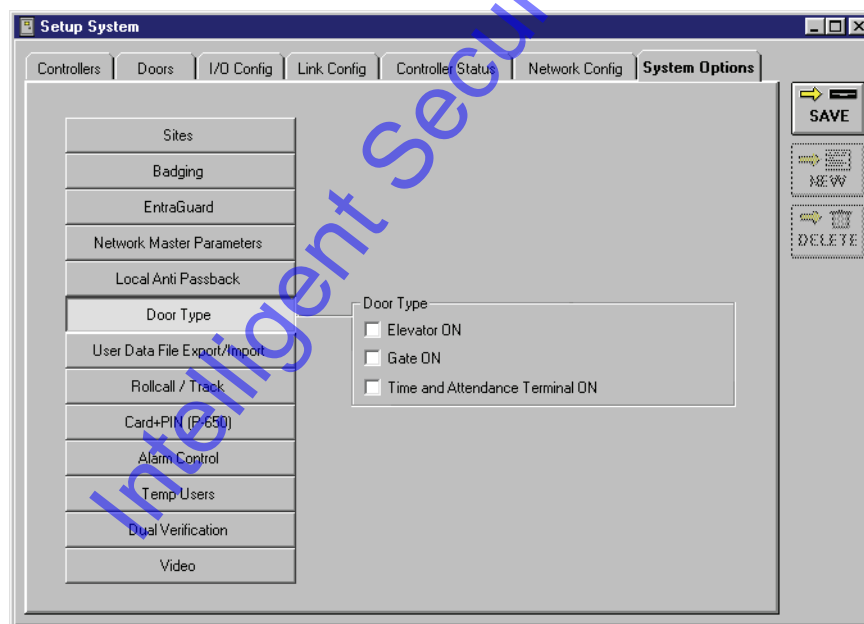

Figure 2-15: Door Type Field
1. From the System Options tab, click on the  button. The System Options window will reveal the Door Type field where selections may be made for door type control (see Figure 2-15).
2. If your application does not use elevator, gate, or time and attendance terminal control, verify there are **no** check marks in the Elevator ON, Gate ON, or Time and Attendance Terminal ON boxes. This is the default value (see Figure 2-15).